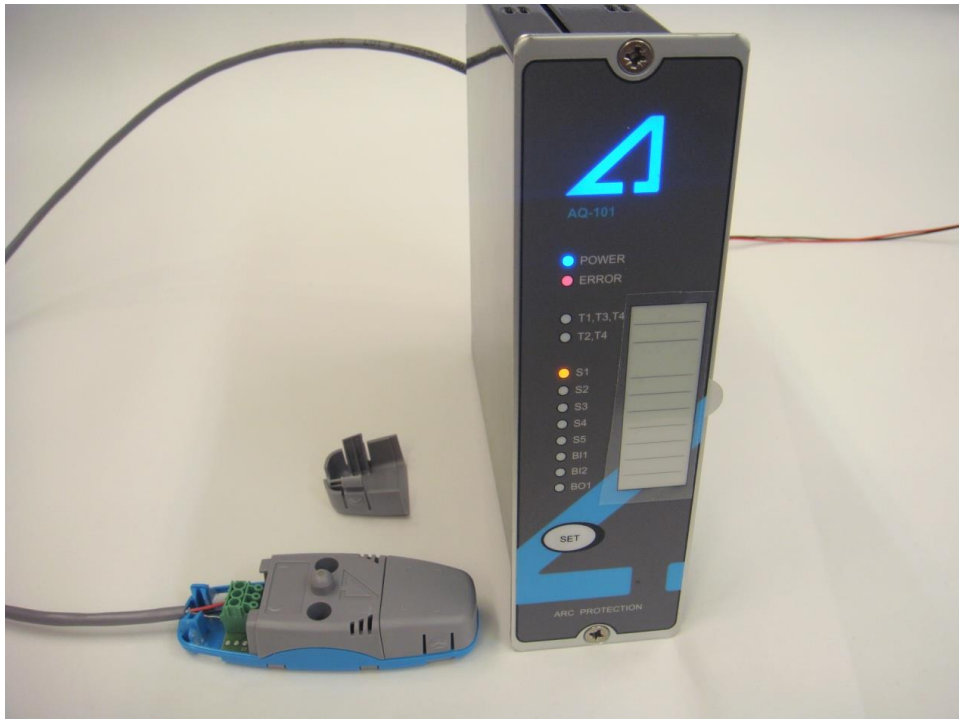

Figure 4-11: AQ01 sensor connection step 6.
6) After connecting the sensor to unit, the ERROR LED turns on, and the appropriate sensor channel LED starts to blink (e.g. S1 LED). See Figure 4-11.